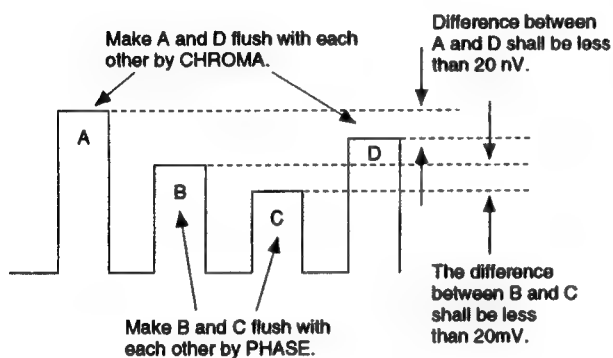

Fig. 5-22
- 4) While tracking by means of **[B-Y PHASE NTSC 443]** and **[CHROMA NTSC 443 NOR]**, make adjustment so that the peaks of waveforms will be the same. (Fig.5-22)